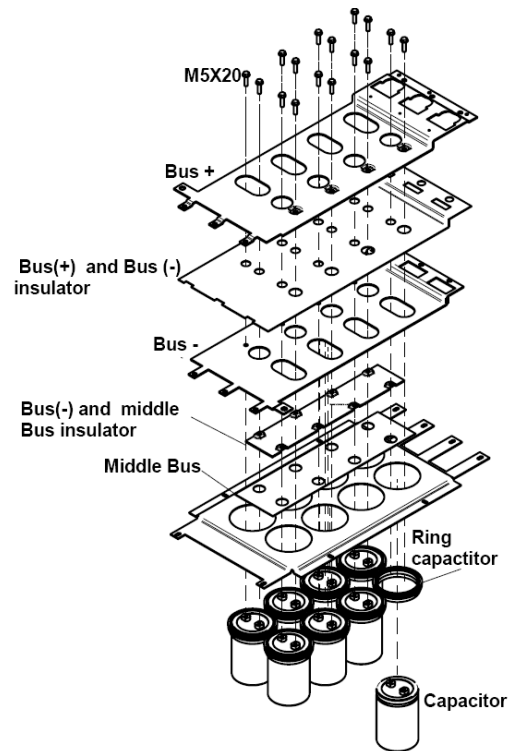

Figure 3.16. Disassembly of the Bus capacitors
Follow *figure 3.16* while reading these instructions:
- 2) Insert the middle Bus (*figure 3.16*).
- 5) Insert the Bus (-) (*figure 3.16*).
- 8) Insert the Bus (+) (*figure 3.16*).